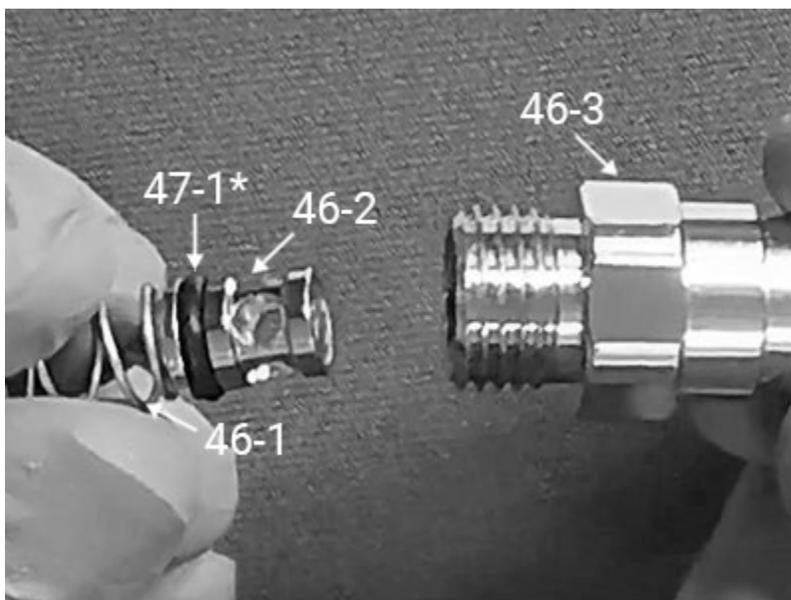

Fig. 62
3. Add a new lubricated O-ring (47-1*) to the Receiver (46-2). Reattach the Spring (46-1) to the Receiver. Using a thin dowel, and pushing from the spring end, slide the Receiver assembly inside the Body at the threaded hose end - Fig. 62.